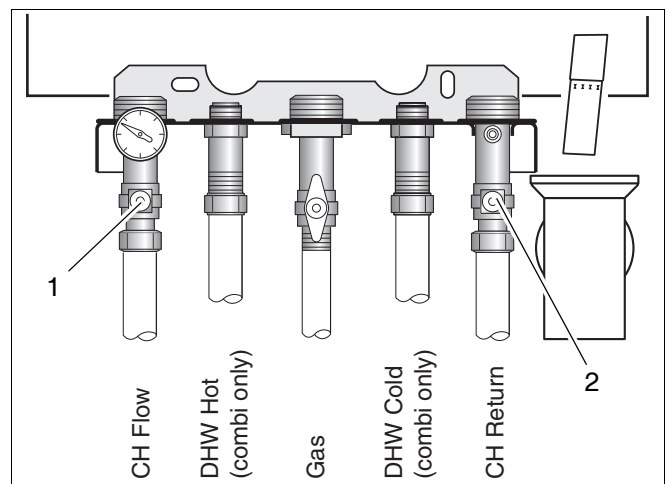

Fig. 3 Maintenance valves
- If necessary open the CH flow and CH return maintenance valves (fig. 3, item 1 and 2).